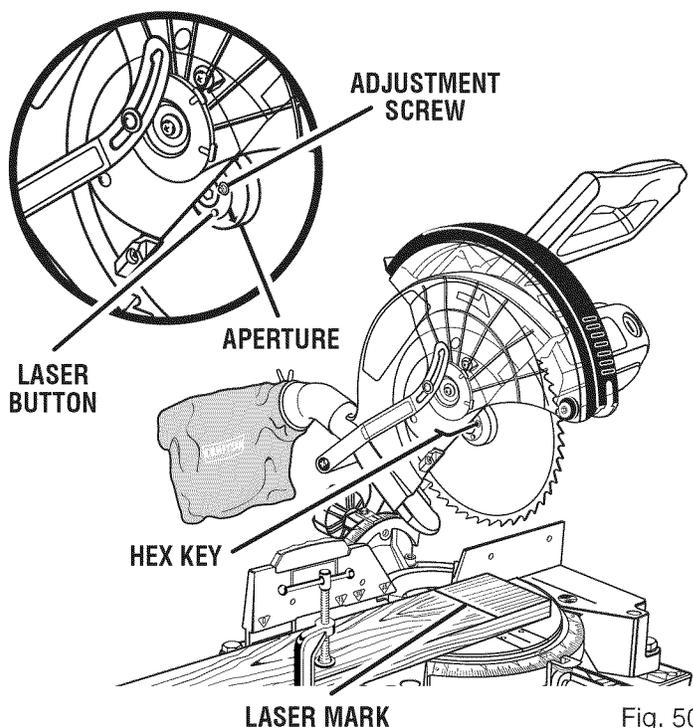

Fig. 50
See Figure 50.
- Rotate the blade by hand until you can push and hold the laser button and the laser is near the center of the workpiece as shown in figure 50.
- To adjust the laser, turn the adjustment screw counterclockwise or clockwise using the hex key (1/16 in.) provided.